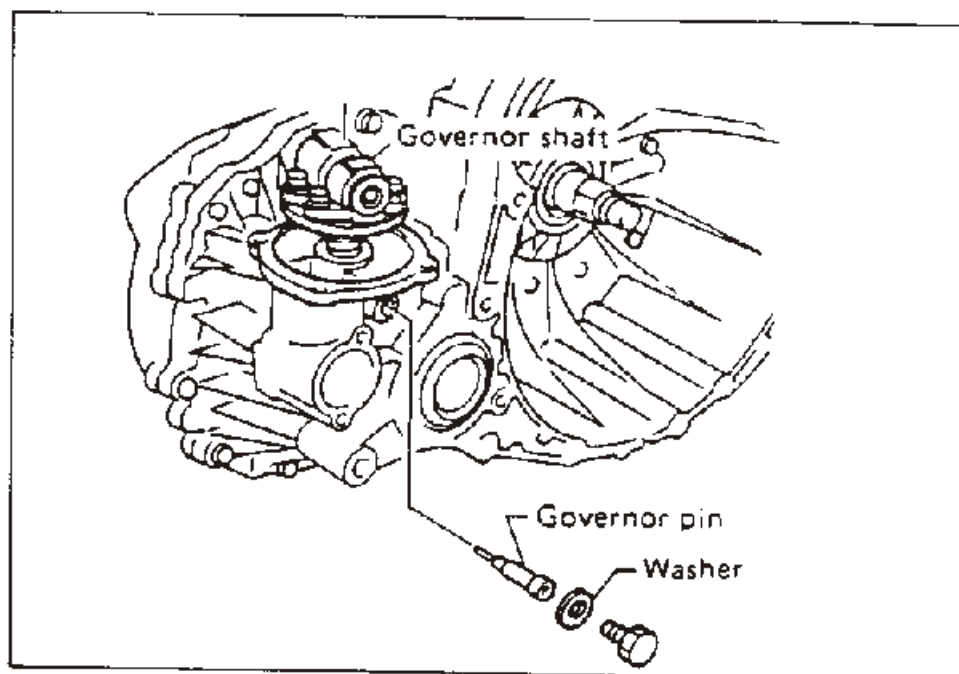

FIGURE 1.
- CORRECTION:** REMOVE THE BOLT AND PIN THAT HOLDS THE GOVERNOR SHAFT INTO THE CASE. INSPECT THE PIN FOR WEAR AND REPLACE IT IF NECESSARY. SEE FIGURE 1.